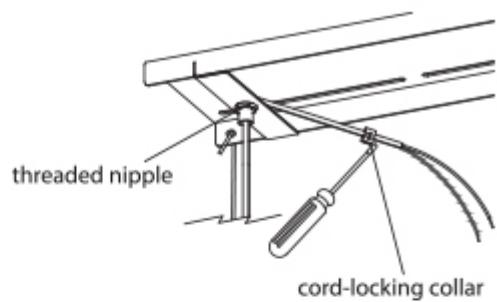

Figure 9
12. Next, run the pendant cord through the threaded nipples on the mounting bracket and toward the center of the unit. Locate plastic cord-locking collars packaged separately with the pendants. Tighten the lock collars onto cord. These collars will set height of pendants and prevent the cording from slipping through the opening in the threaded nipple, so adjust to achieve desired cord length. (Figure 9) *Note: Certain pendants do not come with plastic cord locking collars. For these pendants, tie a knot in the cord above the threaded nipple to achieve your desired cord length for each pendant.*